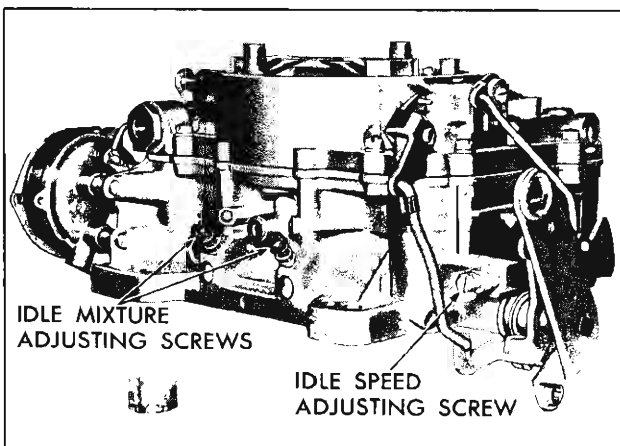

Fig. 9—Idle Speed and Mixture Adjustment Screws
3. Adjust idle speed adjustment screw (fig. 9) to give proper idle speed shown in tune-up chart.